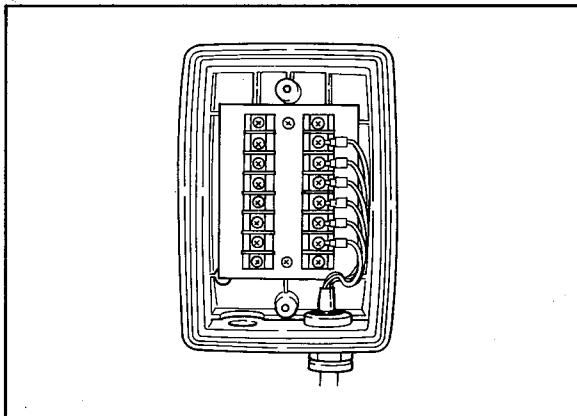

Figure 2-11. Sensor Cable Connection to Terminal Box.
- (2) Loosen two screws on the terminal box front panel and remove the cover.
- (3) Connect the sensor cable to the terminal box terminals. First, remove the nut from the cable gland, then pull the cable into the internal assembly through the wiring hole. Pass the cable through the nut. Correctly connect each conductor to the corresponding terminal, observing conductor marking (see Figure 2-11).